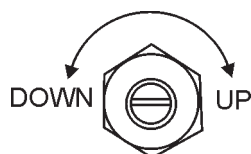

Figure 51. Engine Idle Adjust Trimmer
18. If the engine speed is too high or low, use the high idle adjust trimmer (Figure 51) located on the control box to adjust the rated speed of the engine